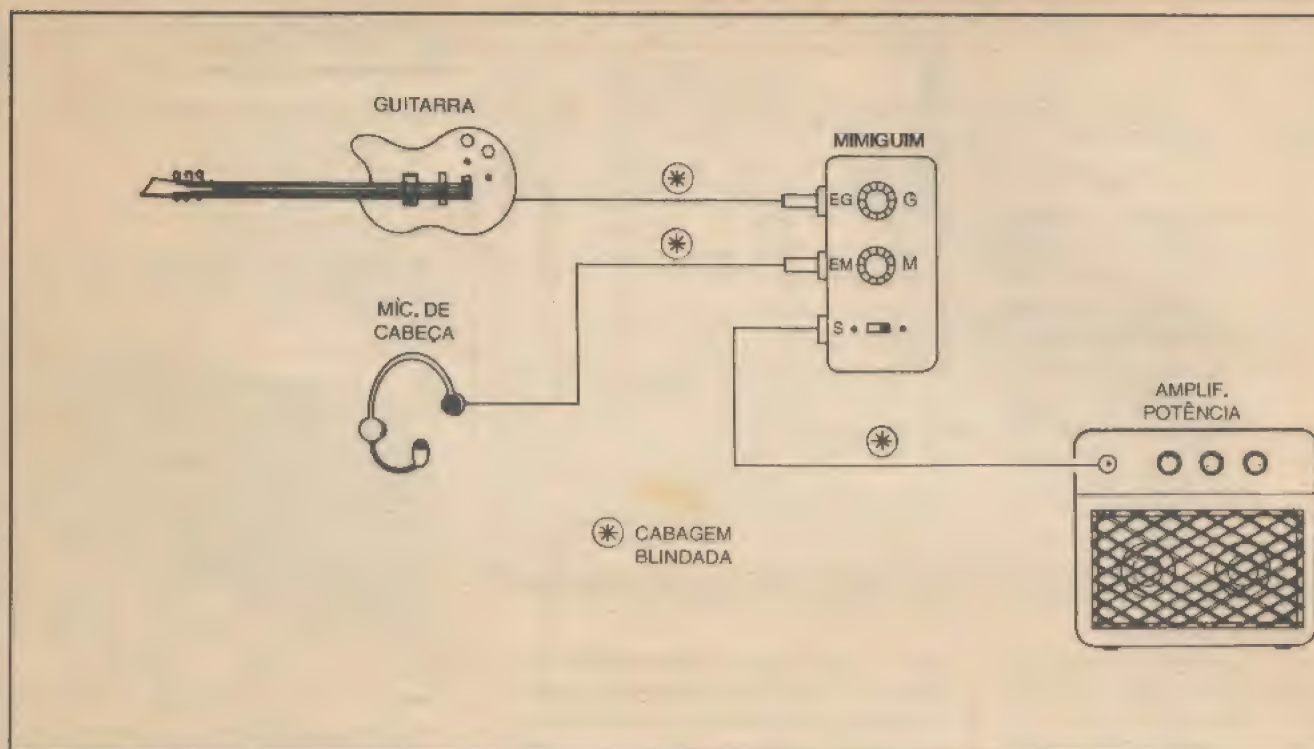

Fig.6
- FIG. 6 - INTERLIGAÇÕES E USO...